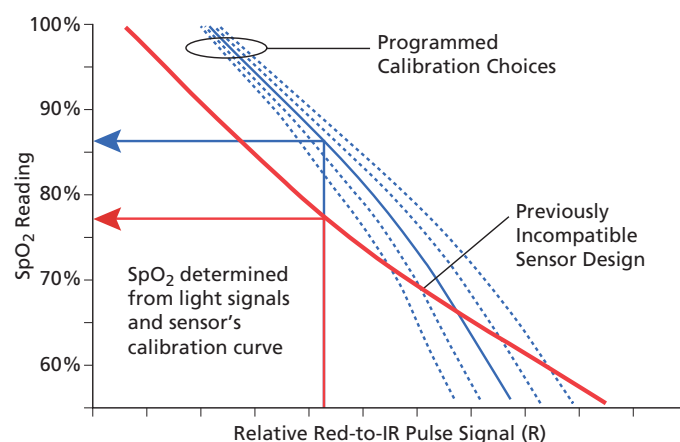

Figure 3
Pulse oximeters measure precisely this red-to-infrared pulse Modulation Ratio (R) to determine saturation. The relationship between R and arterial saturation (SaO_2) follows a smooth line that serves as the sensor calibration curve (e.g., bold blue curve in Figure 3).
The impact of this more orange-colored emitter is to shift and rotate the sensor's calibration curve—with more of a change at low saturation than high (see Figure 3, dotted curves to the right of the solid blue curve). At any given true arterial saturation, the red-to-IR Modulation Ratio will be larger when using red LEDs that are more toward the orange side of the spectrum.
Figure 3), other designs may only moderately fit or miss by an amount that would result in clinically unacceptable accuracy (as depicted by the red curve in Figure 3). This limits possibilities, such as new sensors designed for more convenient placement sites on the patient.